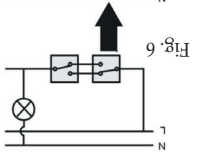

Fig. 6
2. To replace a 2 way switch in a two way circuit. (such as stairs). (See Fig. 6)